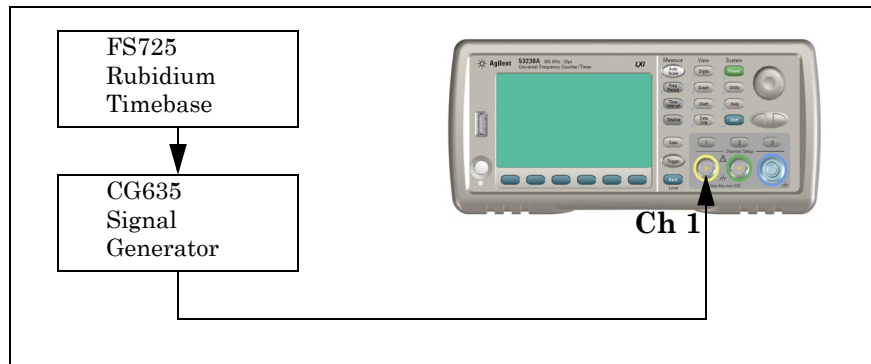

Figure 1-3. Absolute Timebase Test Setup
- 1 **Connect the equipment as shown in Figure 1-3.**